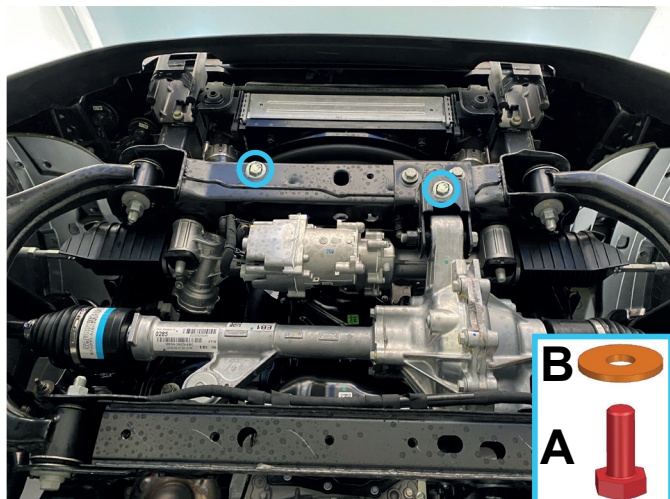

Fig. 1
1. Attach bolts M10x30 (item A) and washers 10 (item B), as shown in fig.1.